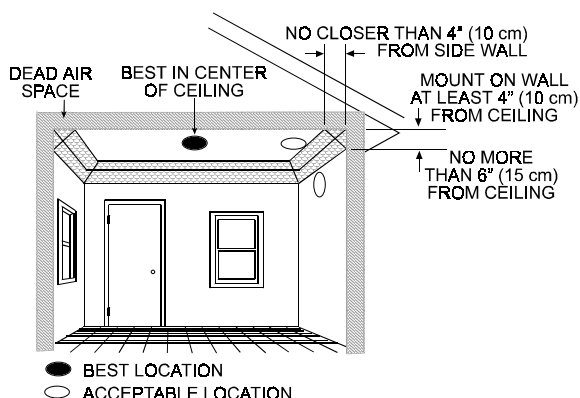

Figure 4: Recommended Smoke Alarm Mounting Locations
- F. Put detectors as close to the center of the ceiling as possible. If this is not practical, put the detector on the ceiling, but no closer than 10 cm (4 in.) to any wall or corner (Fig. 4).
- G. If wall mounting is permitted by your local and state codes, put wall-mounted detectors between 10 and 15 cm (4 and 6 inches) from the ceiling (Fig. 4).
- G. In dead air spaces at the top of a peaked roof or in the corners between ceilings and walls. Dead air may prevent smoke from reaching a detector. See Figures 4 and 5 for recommended mounting locations.